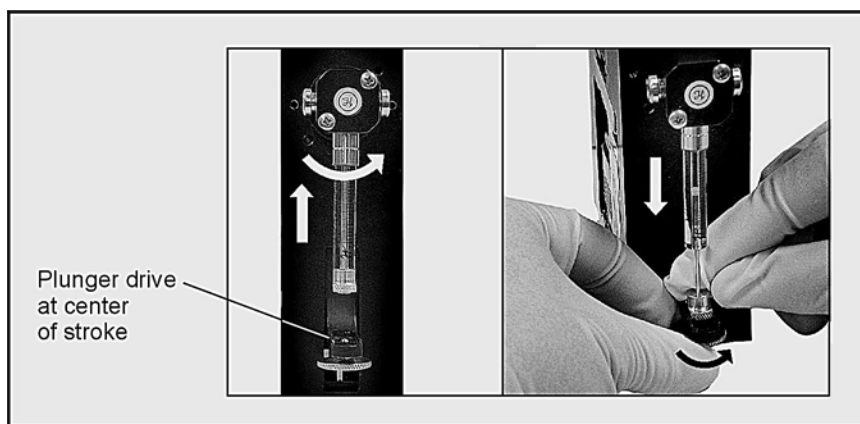

Figure 3-3: Syringe installation
1. Position syringe plunger to the center of the stroke (see figure 3-3).